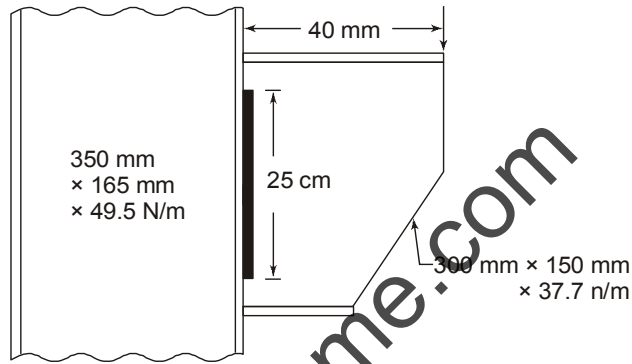

Fig. 3
12. (a) Find the suitable pitch for single riveted lap joint for plates 1 cm thick, if $\sigma_t = 150 \text{ N/mm}^2$, $\sigma_s = 100 \text{ N/mm}^2$ and $\sigma_b = 300 \text{ N/mm}^2$. (12)
- (b) Calculate the maximum load that the bracket shown in Fig. 3 can carry if the size of the weld on flange is 8 mm and that on the web is 5 mm. The allowable shear stress is 102.5 N/mm^2 . (18)